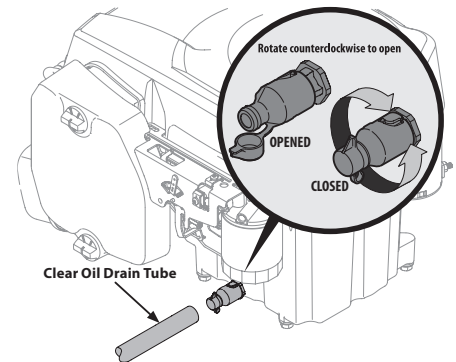

Figure 4-5
4. Pop open the protective cap on the end of the oil drain valve to expose the drain port. See Figure 4-5.
5. To *lower* the front of the deck, loosen the outer nut then loosen (thread outward) the nut, away from the front hanger bracket. See Figure 4-5. When proper adjustment is achieved, re-tighten the outer nut.